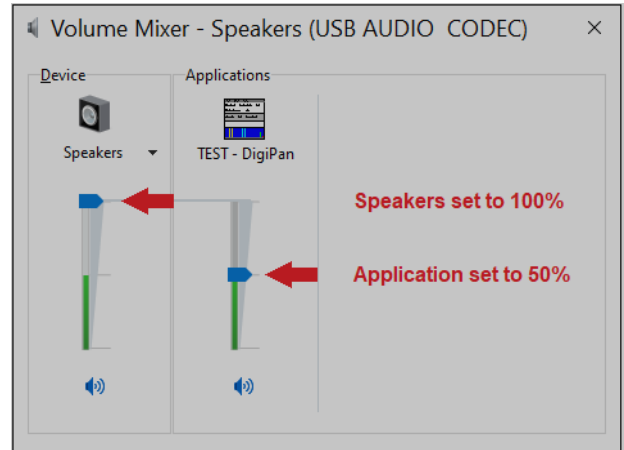

Figure 9 - Volume Mixer adjustment
- You should now see a volume mixer window similar to the one shown below in Figure 9. Note that the Applications volume control will display the name of the communication program that you are using or something similar (we've used the DigiPan program for our example). If you do not see the Applications volume control, then you will need to close this window, put your program in Transmit and then re-open the window. If you still do not see the Applications volume control, then double-check that your communication program is properly configured and actually in Transmit (see "Communication Program Setup" on page 7).
- Adjust the Speakers and Applications volume controls as shown above in Figure 9. The Speakers volume control **MUST** be set to 100%, and the Applications volume control **MUST** be set to 50%. ***If these are not set correctly then the Signalink USB's PTT LED will NOT turn on and you will be unable to Transmit.***